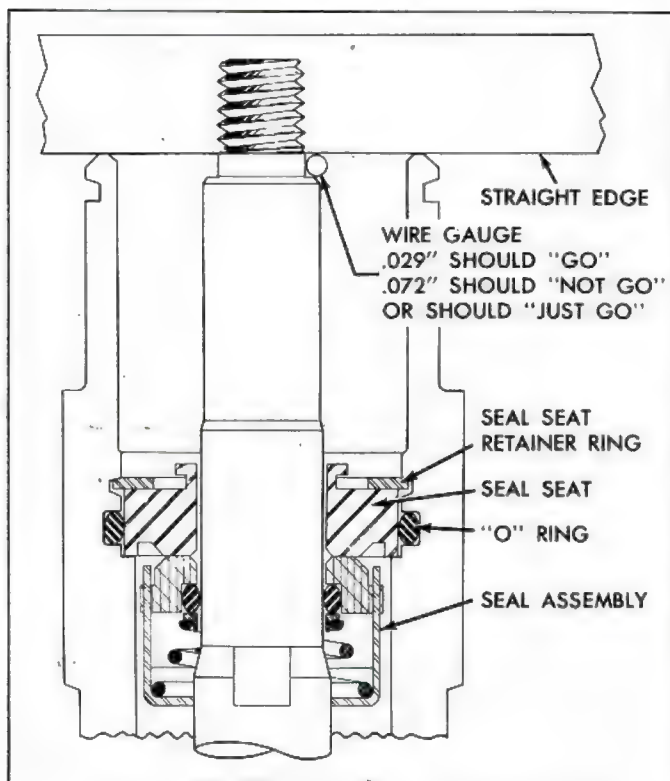

Fig. 40—Checking for Wobble Plate Position on Shaft
2. Remove the seal seat retaining ring using Snap Ring Pliers J-5403 (fig. 40).